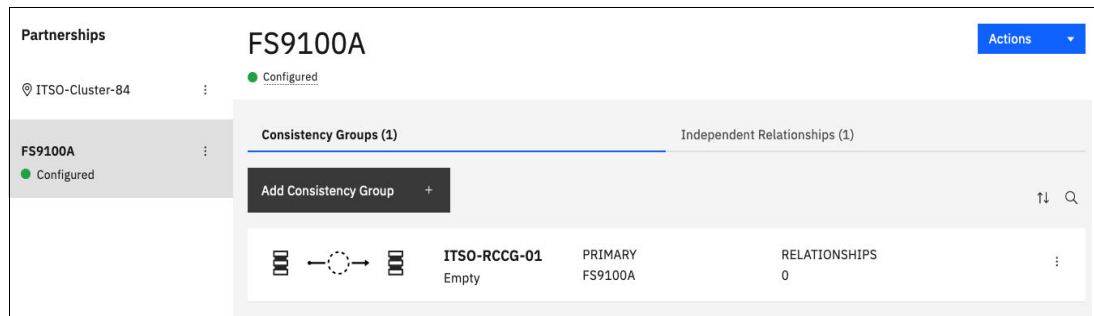

Figure 10-123 Creating a Remote Copy consistency group
1. Open the **Copy Services** → **Remote Copy** panel and select the target system of the Remote Copy. Then, click **Add Consistency Group**, as shown in Figure 10-123.